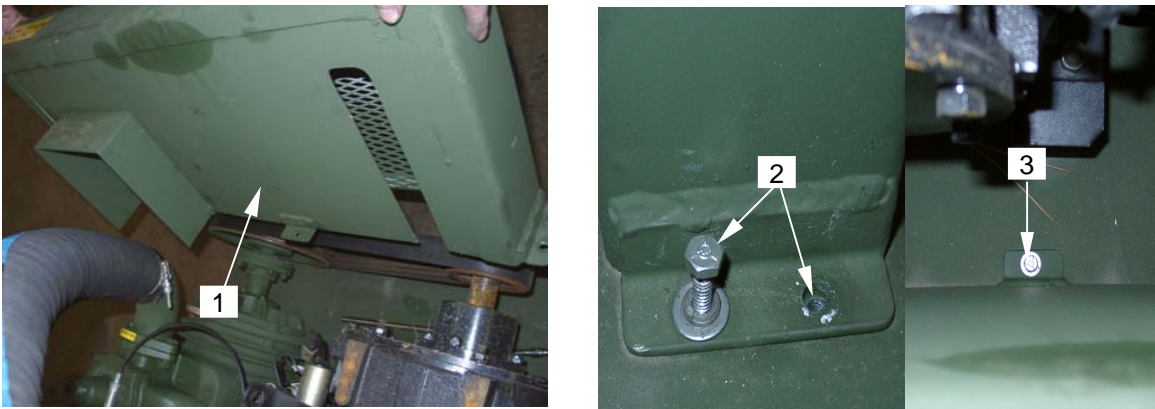

Figure 14. Installing Drive Belt Guard
19. Position pulley guard (**figure 14, item 1**) over pulleys and belt for installation.
20. Install hex bolts and washers (**figure 14, item 2**) into the pulley guard brackets. Two are located at each end and one at the rear center (**figure 14, item 3**).